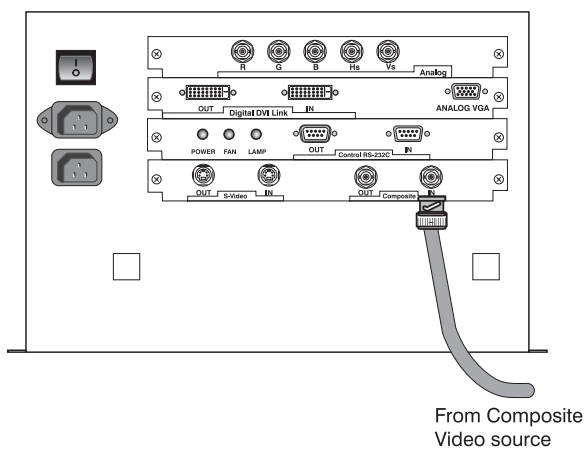

Figure 2.5. Connecting Composite Video Sources
- Composite Video** ➤ Connect a composite video input to the Composite RCA jack labeled IN. The jack adjacent to it is left empty, unless you want to loop the composite video signal through to the next display device. Figure 2.5.